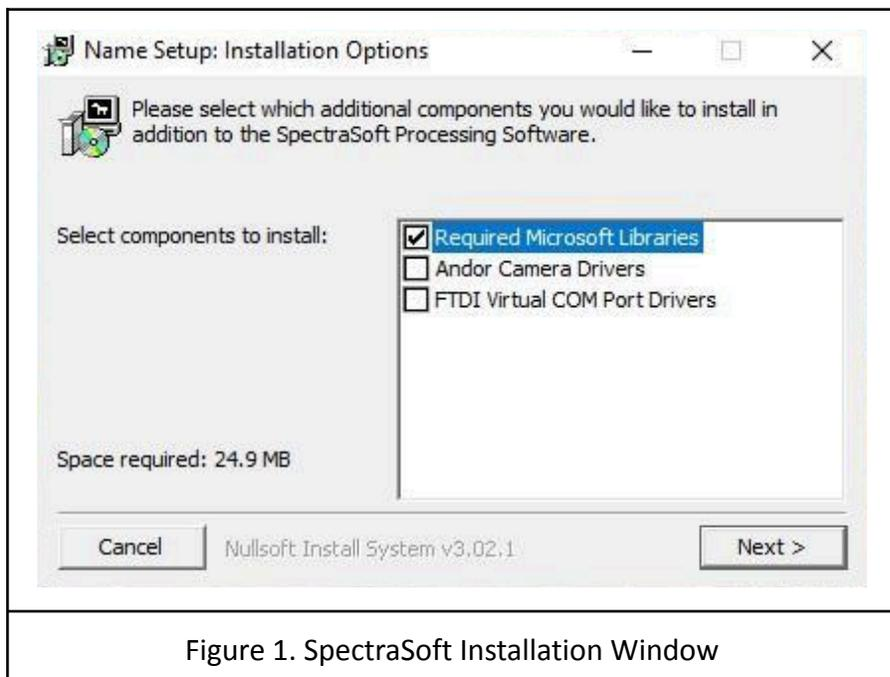

Figure 1. SpectraSoft Installation Window
1. Launch the **SpectraSoft Install** software. A popup window will appear (Figure 1).